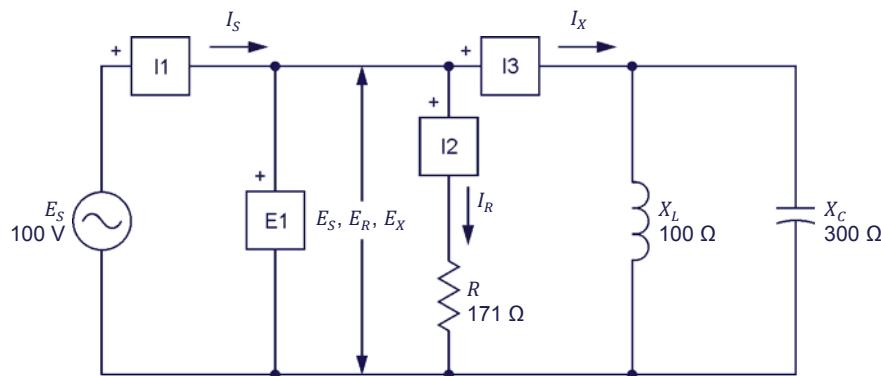

Figure 3-15. Parallel ac circuit containing a resistor, an inductor, and a capacitor, and set up for power measurements.
- 18.** Set up the circuit shown in Figure 3-15.
**Power triangle of the circuit in Figure 3-15.**